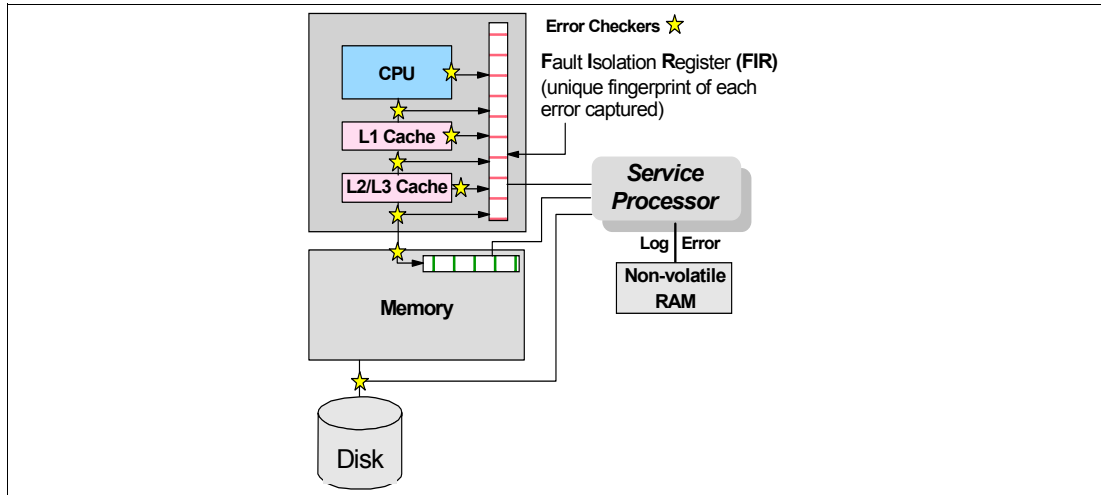

Figure 3-1 Schematic of Fault Isolation Register implementation
Any errors detected by the pervasive error checkers are captured into Fault Isolation Registers (FIRs), which can be interrogated by the service processor (SP). The SP in the p5-520 has the capability to access system components using special purpose service processor ports or by access to the error registers. Figure 3-1 on page 47 shows a schematic of a Fault Register Implementation.